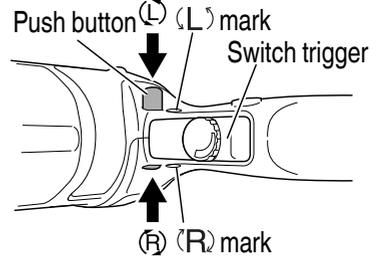

Fig. 2
(1) Open the chuck jaws, and insert the bit into the chuck.
(2) Place the chuck wrench in each of the three holes in the chuck, and turn it in the clockwise direction (viewed from the front side). Tighten securely.
(3) To remove the bit, place the chuck wrench into one of the holes in the chuck and turn it in the counterclockwise direction.
6. Check the rotational direction (Fig. 2)